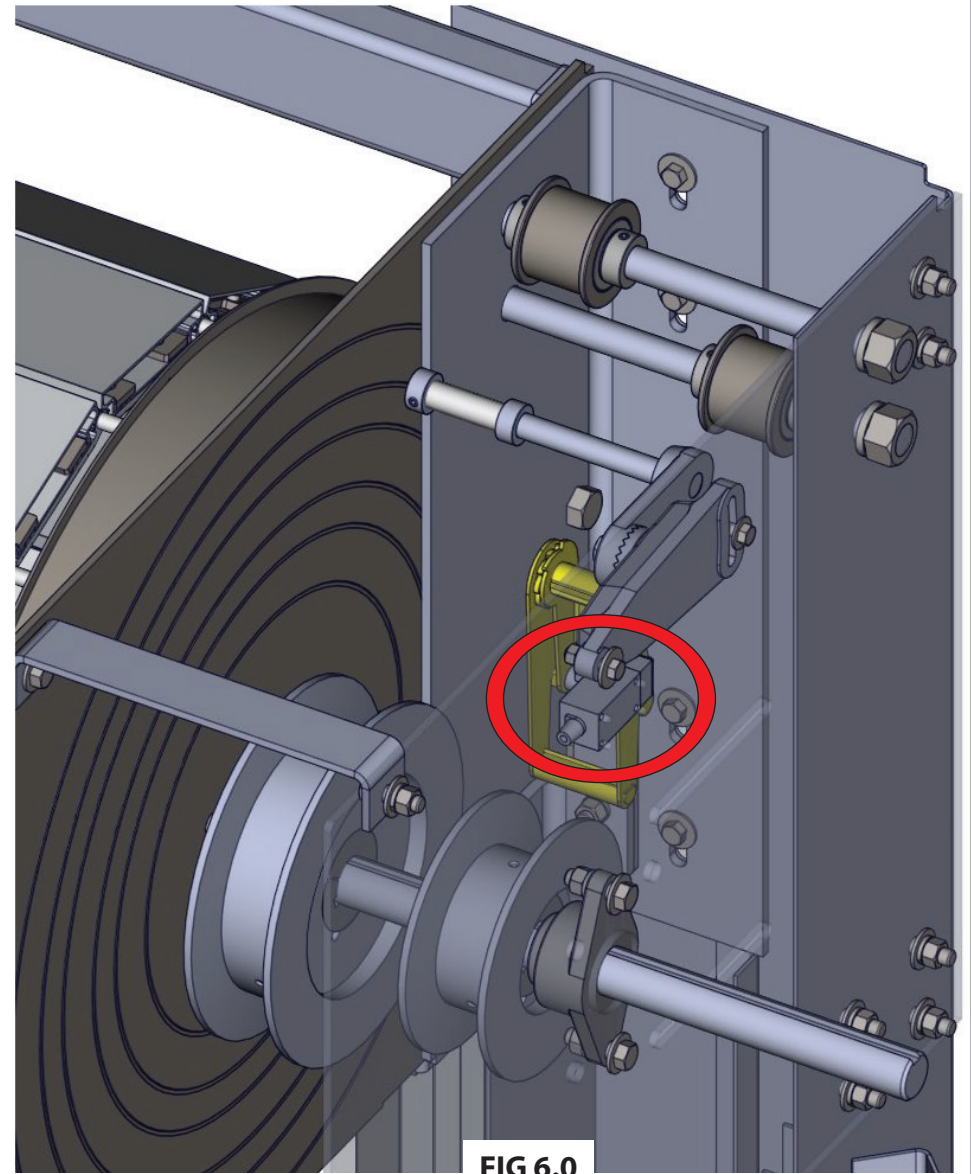

FIG 6.0
6. Remove the screws from tension switch. Unplug switch from cable and discard. Install new switch and screws, as shown in **FIG 6.0**.